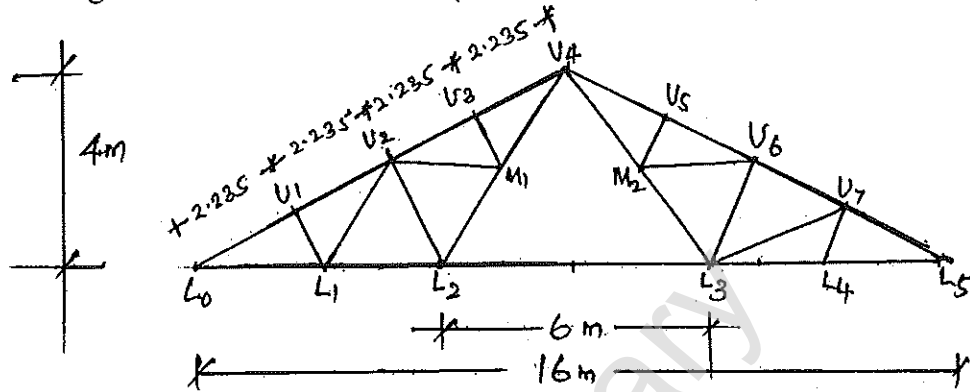

Fig.Q.3
- 3 Design the principal rafter, principal tie and a strut member for the given forces in these members. Design the end connections also (either bolted or welded) Refer Fig.Q.3.